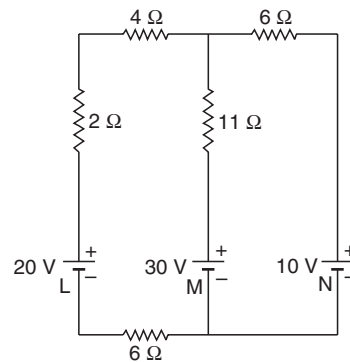

Fig. 60
16. Determine the magnitude and direction of the current in each of the batteries *L*, *M* and *N* shown in the Fig. 60.